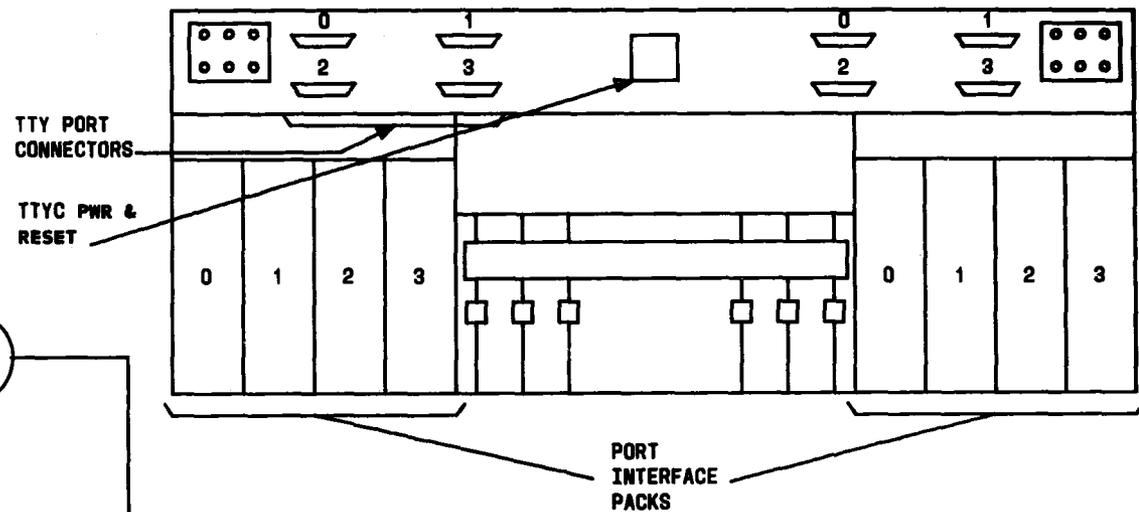

FIG. 1 - Teletypewriter Control Unit
- [6] Disconnect local TTY from TTYC 0 port 0 connection [FIG. 1, 2]
- [7] Connect local TTY to TTYC 1 port 0 connection [FIG. 1, 2]
- [8] At TTYC 0 and TTYC 1 depress TTYC PWR & RESET to restore power [FIG. 1]